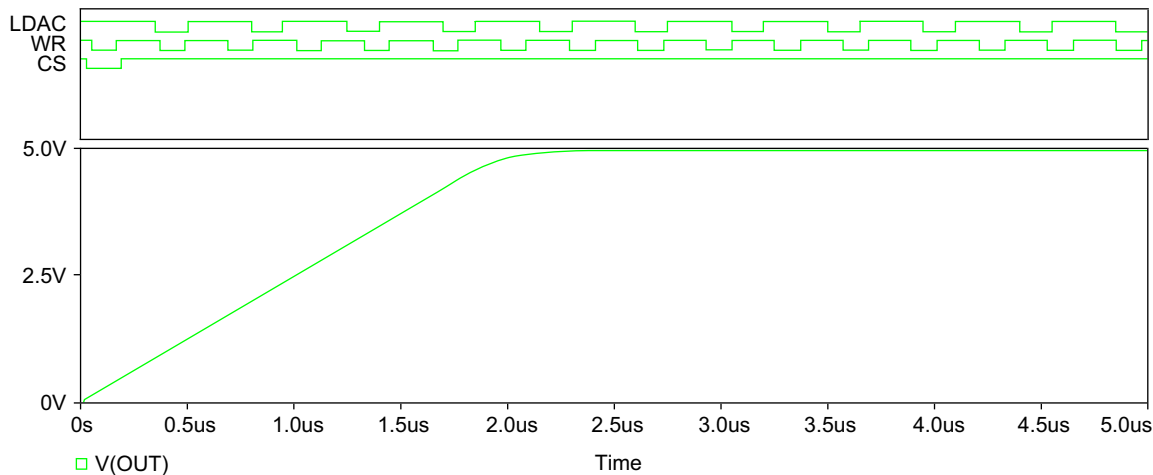

FIGURE 19.5
5. In Probe, you will see that the upper plot is for the digital signals and the lower plot is for the analog OUT signal (Figure 19.5).